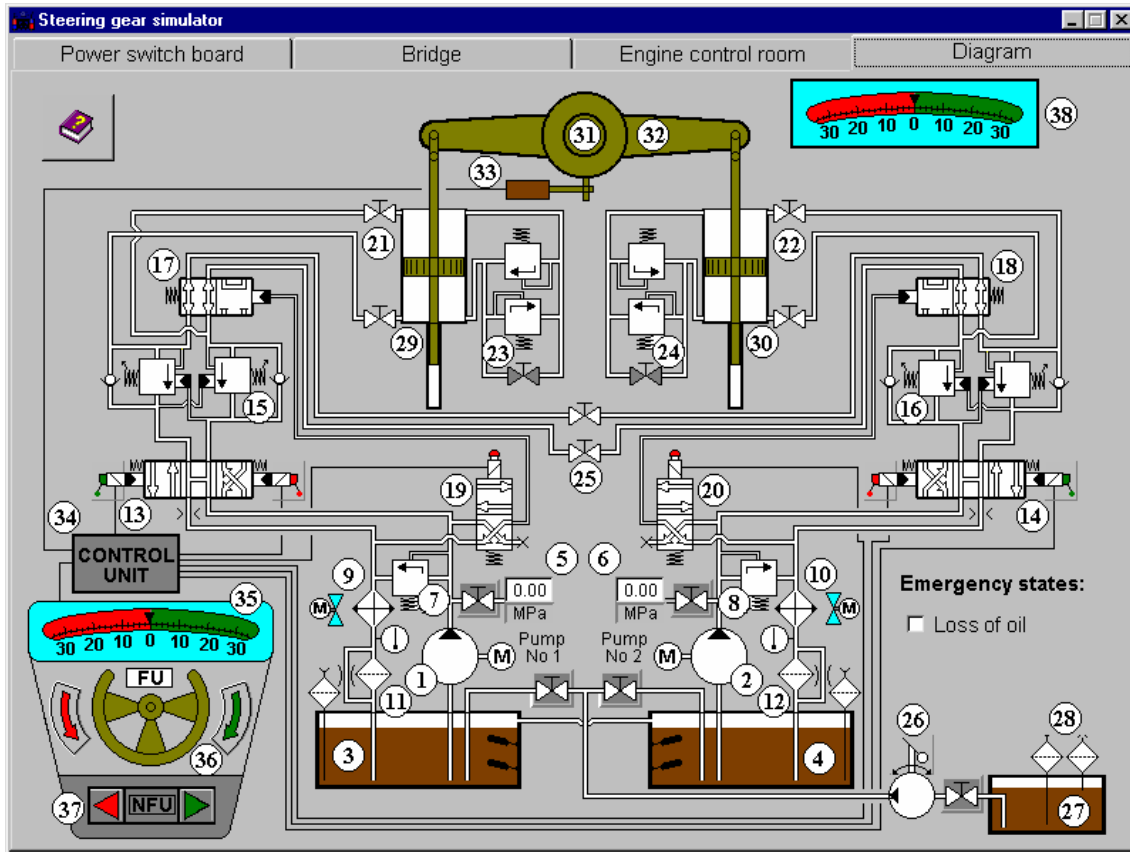

Fig. 1. Steering gear - installation diagram
## 2. Steering gear and installation description - fig. 1.
This steering gear consists of two hydraulic cylinders (29, 30) with two pistons inside defined as rudder actuator unit. The pistons affect the rudder tiller (32) by means of the strand assembly and the rudder tiller affects the rudder stock (31) directly. This action causes the movement of the rudder blade (the rudder blade is not visible on the figure 1). The nominal pressure is approx. 16 MPa (the maximal pressure, which opens safety valves 7, 8, 23, 24 equals 20 MPa) and it is generated by two independent gear pump drive units (1, 2). The high pressure of installation may be measured by pressure gauges (5, 6) by opening the manometer valves. During the steering gear operation, manometer valves should be closed because of the risk of damage by high pressure in installation. The steering gear is ready for work when one or both electric motors are put into service.. The electric motor drives the pump, which pumps oil further into installation.
The direction of the oil flow is controlled by means of the solenoid directional primary control valve (it is not visible on the fig. 1). Once the control begins, the electric remote control system sends the control signal on clamping rings of solenoid directional primary control valve. The slide of this valve is set on the extreme position and supplies oil to the control chamber of main directional control valve (13 or 14). The slide of main directional control valve is set into appropriate extreme position. Then oil is pressed through the counter-balance valve (15 or 16). The task of counter-balance is to supply oil only when the pump delivery pressure is superior than the draining pressure from the system and it also maintains the rudder in the given position. Afterwards the oil flows through the cut-off valve (17 or 18, depending on the kind of manoeuvring) to the proper chambers of cylinders (29 or 30).